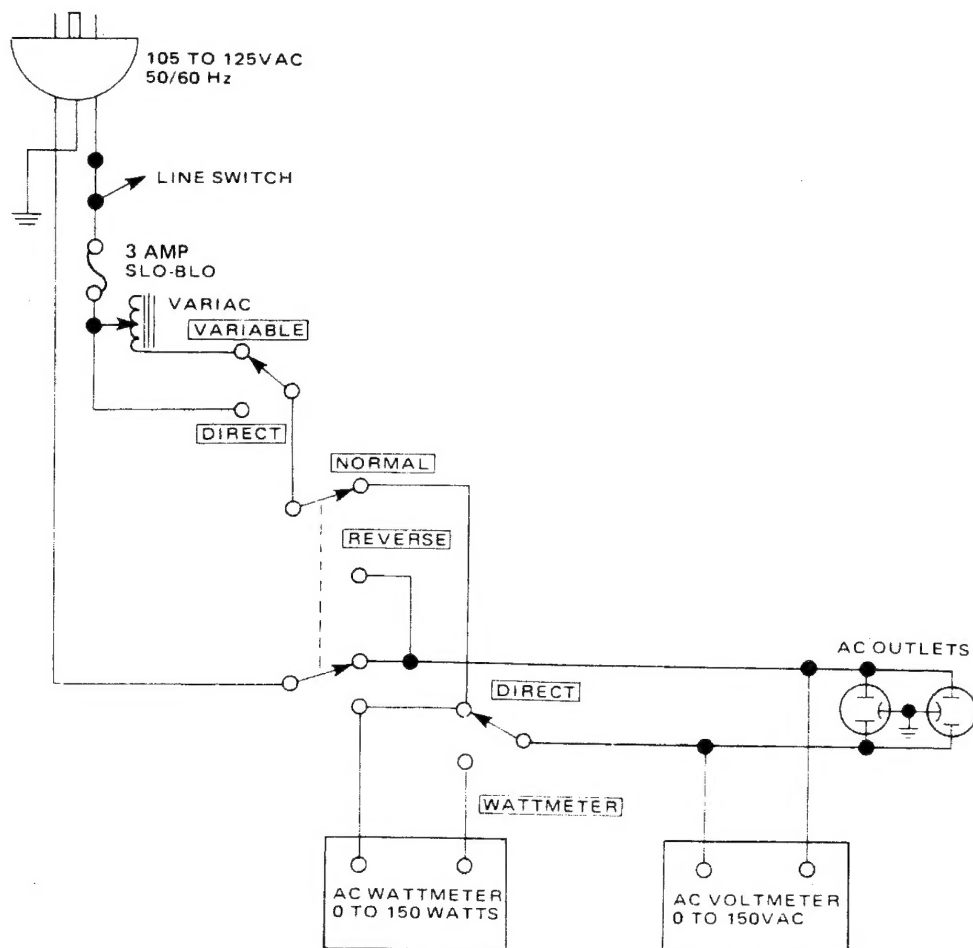
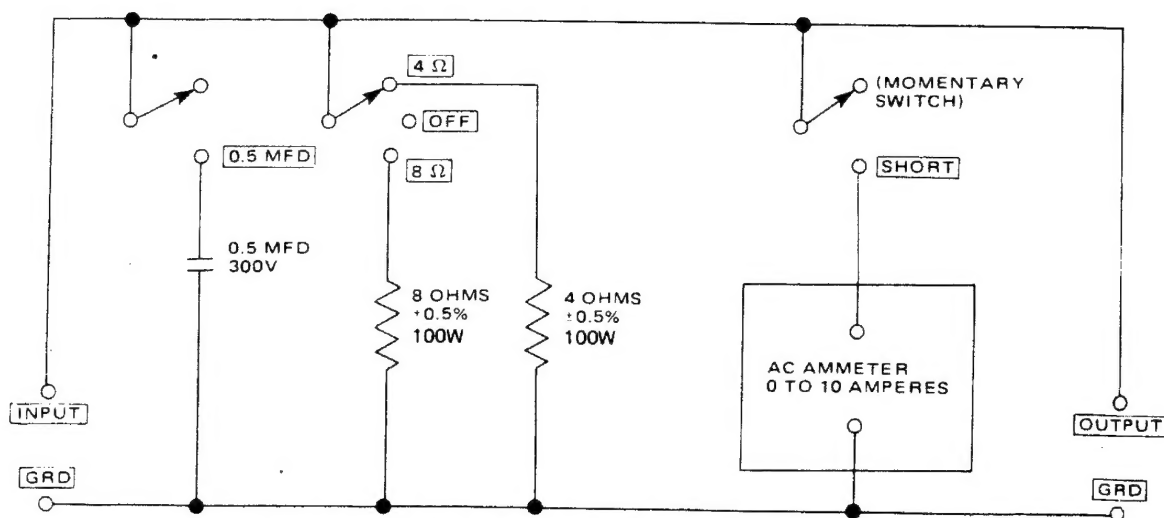

Figure 1. AC Power Control Box Simplified Schematic
Figure 2. Amplifier Output Load Box Simplified Schematic
Table 1 lists the test equipment required for servicing the PM 310 Stereo Console Amplifier. The wattmeter, AC voltmeter, and variable autotransformer may be assembled as a test fixture as shown schematically in Figure 1. The load resistors and AC ammeter may be assembled into a second test fixture as shown in Figure 2.
1. Make the test setup shown in Figure 1 with the instrument controls set in the following positions: